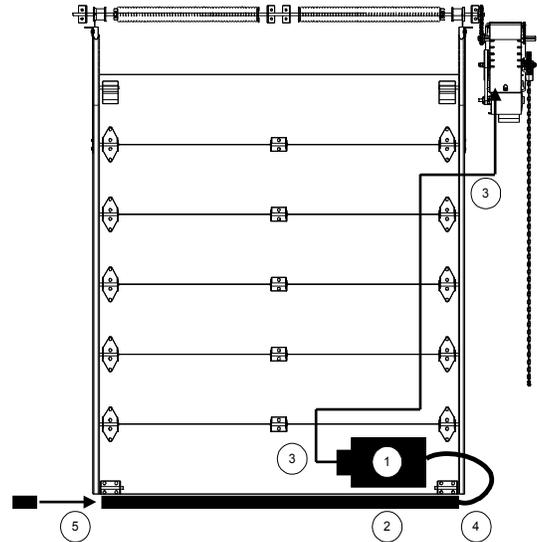

Figure 29 - Reversing Edge
1. Place the air switch in position, refer to Figure 29.
1. Place the junction box in position, refer to Figure 29.